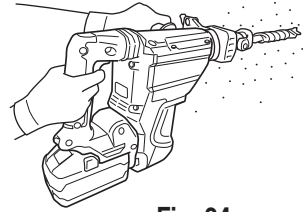

Fig. 24
1. How to drill holes (Fig. 24)